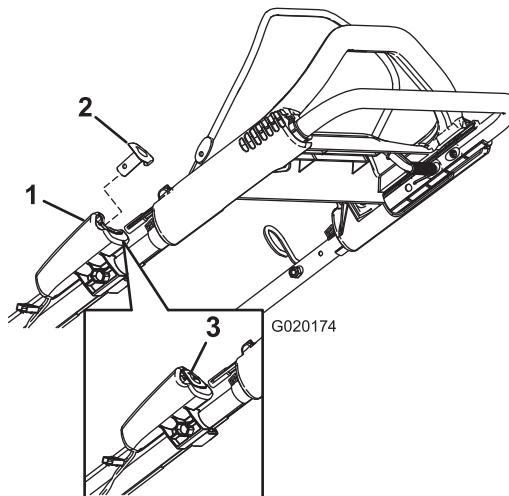
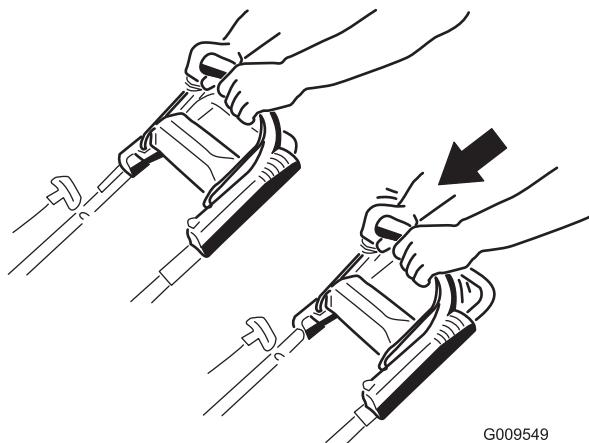

Figure 12
**Figure 13**
2. Push the electric-start button (Figure 12) (electric-start model only) or pull the recoil start handle (Figure 13).
**Note:** If the electric-start button if it has been removed, insert it in the electric starter; refer to Figure 12(electric-start model only).
**Note:** When you pull the recoil start handle, pull it lightly until you feel resistance, then pull it sharply (Figure 13). Allow the rope to return to the handle slowly.